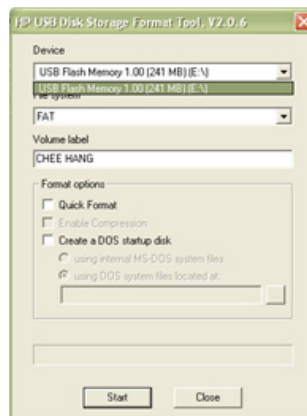

Figure 5-1 Select the external USB flash storage
- iv Select the external USB flash storage to be formatted as shown in Figure 5-1.